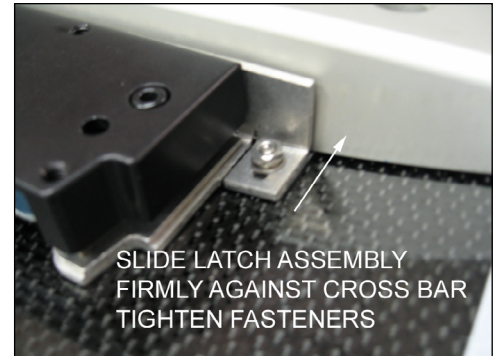

Fig. 57
8. Press CT Latch Assembly firmly against IV Pole Cross Bar and tighten fasteners firmly using $\frac{3}{8}$ " wrench (not provided) (Fig. 57).